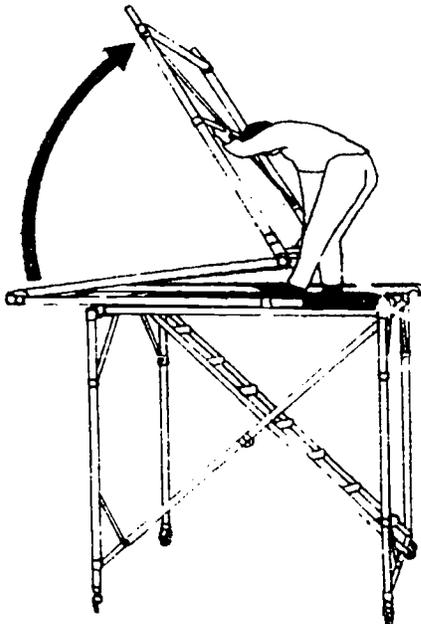

FIGURE 21. Raise the top end frame
g. Climb the scaffold and pull up the second section. Swing the top end frame over through 270° , as shown in Figures 21 and 22. The lower crossbar will pass under the stairway and straddle the floor braces of the lower section.